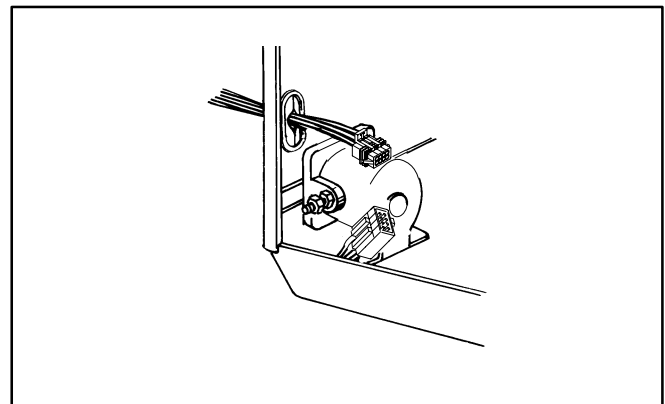
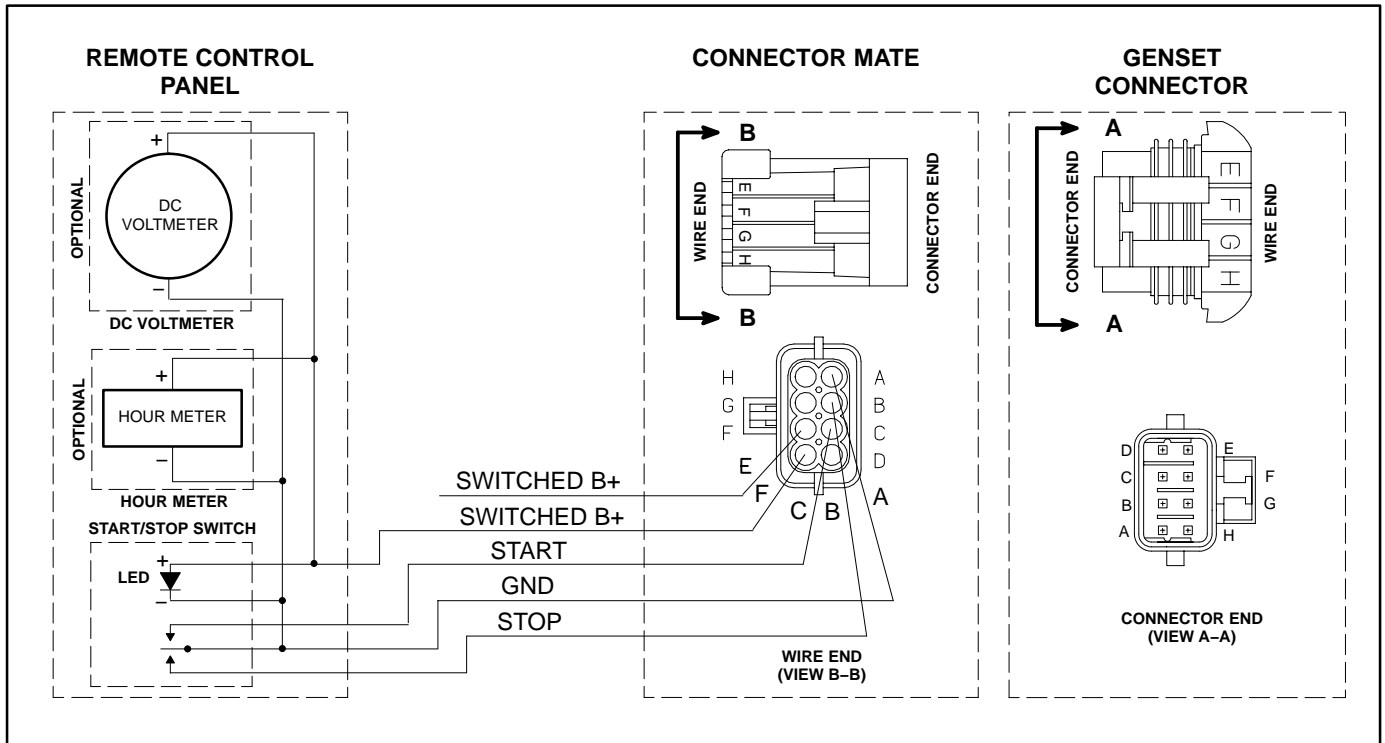

FIGURE 15. REMOTE CONTROL CONNECTOR
FIGURE 16. SCHEMATIC OF TYPICAL REMOTE CONTROL CONNECTIONS
An 8-pin connector for remote control connections (Figure 15) is stowed inside the genset housing. Remote control wiring harnesses in several lengths and remote control panels in three styles are available separately. Figure 16 is a schematic of typical remote control connections. It identifies the function of each connector pin number. To make connections to a remote control panel:
3. Refer to Figure 16 to make the proper connections at the remote control panel.